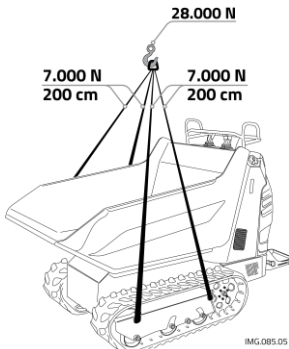

fig. 27 – Anchoring points to lift the machine
- Fix the lifting hooks exclusively to the anchoring points that were prescribed by the manufacturer (*fig. 27*);